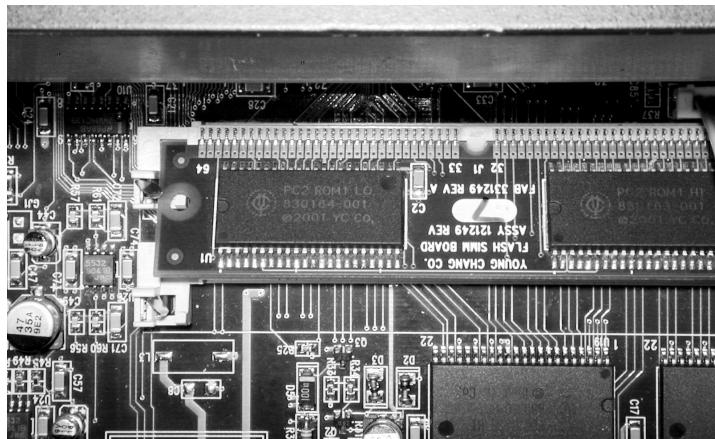

Figure 5 Option board properly installed on Engine Board
5. Figure 5 shows how the PCR-1 board looks when it's installed properly on the Engine Board.